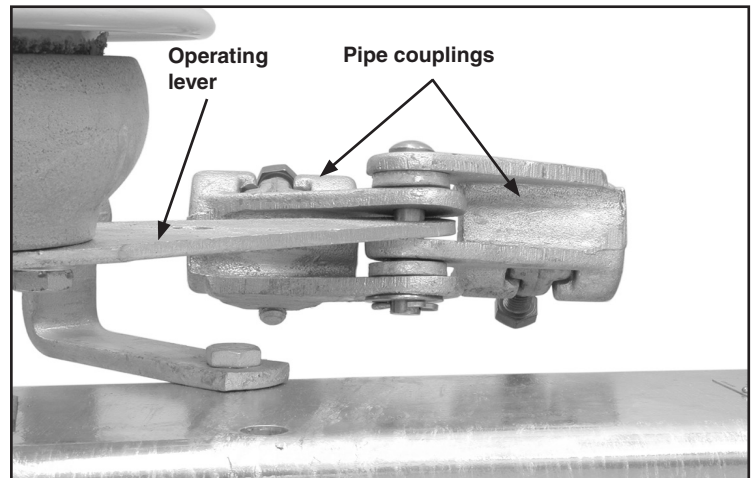

Figure 3. Assemble the pipe coupling to the operating lever—interphase pipe on both sides of operating lever.
STEP 2. Attach the pipe couplings to the operating lever of each switch pole. Each pipe coupling includes ¼-inch and ⅜-inch spacers. Position the spacers included with each coupling, as shown in the section views on the erection drawing. See Figures 3 and 4.